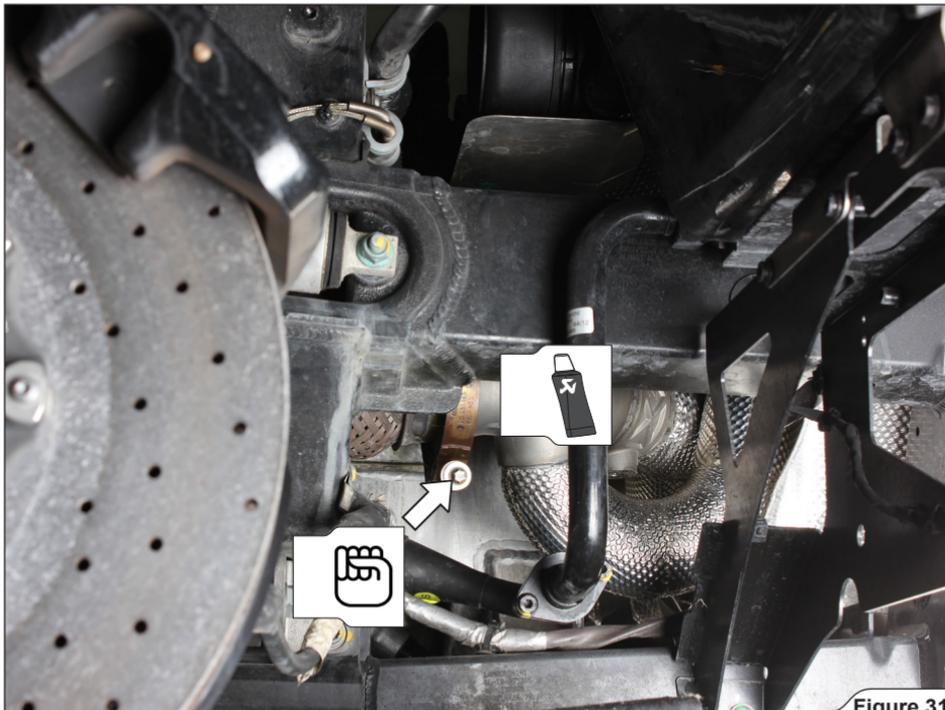

Figure 31
6. Attach the muffler's inlets to the stock link pipes, using stock clamps (**Figure 31**).